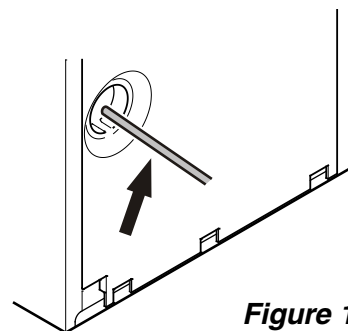

Figure 12
2. Insert the water supply line into its intended opening at the back of the appliance (**Figure 12**).